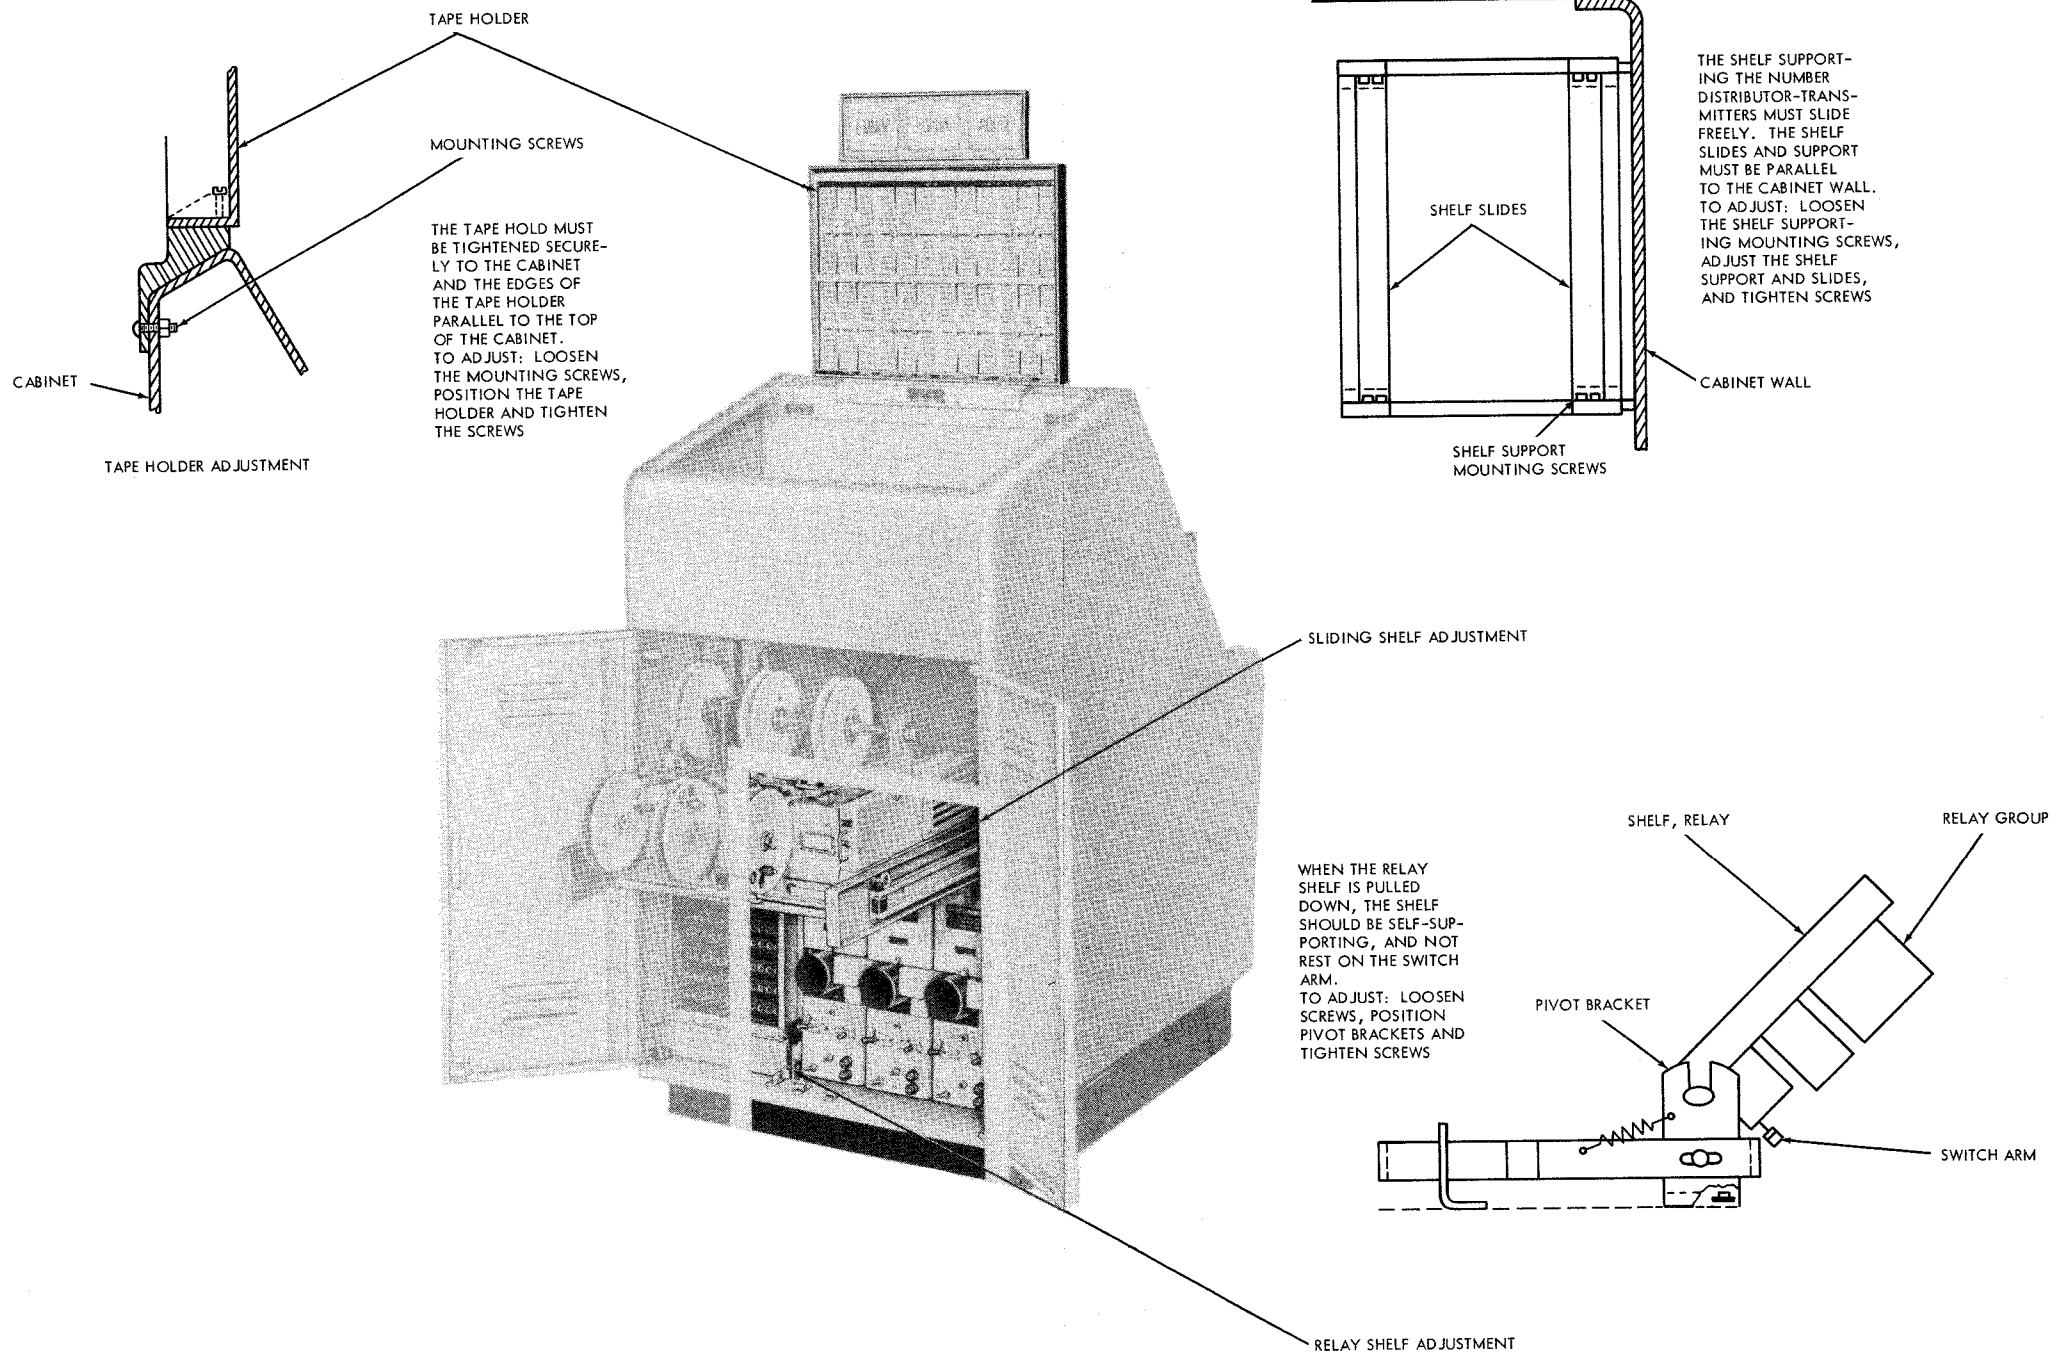

Figure 7-4. Transmitter Cabinet, Adjustments
(1) PATCH FRAME ASSEMBLY. — The patch frame assembly should be adjusted to ride smoothly on the guide rails, and the frame should lock securely in place with the thumbscrew mounted on the mounting frame. Adjust the guide rails, by means of the mounting screws, to be parallel with the side walls of the cabinet. (See figure 7-4.)
(2) CONTROL PANEL SHELF.—When the control panel shelf is pulled down, the shelf should be self-supporting. If the shelf rests on the control panel switch arms, adjust by means of the support frame screws.
(3) SLIDING SHELF. — The shelf that supports the numbering distributor-transmitters and base must slide freely and easily. The support should be parallel to the cabinet wall and base. Adjust by means of the screws holding the shelf to the cabinet.
(4) FRONT DOORS.—The front doors should be flush with the lower front edge of the cabinet. The striker plates are positioned to hold the doors in this position. Adjust the plates and screw them tight. The door latches are then positioned vertically until the doors latch properly when closed, yet open easily with the operator's fingers.
(5) REAR DOORS.—The doors are hung so that the outer surfaces are flush with the rear surface of the cabinet and the opening on top is not more than 1/16 of an inch. The strikers for the top and bottom latches